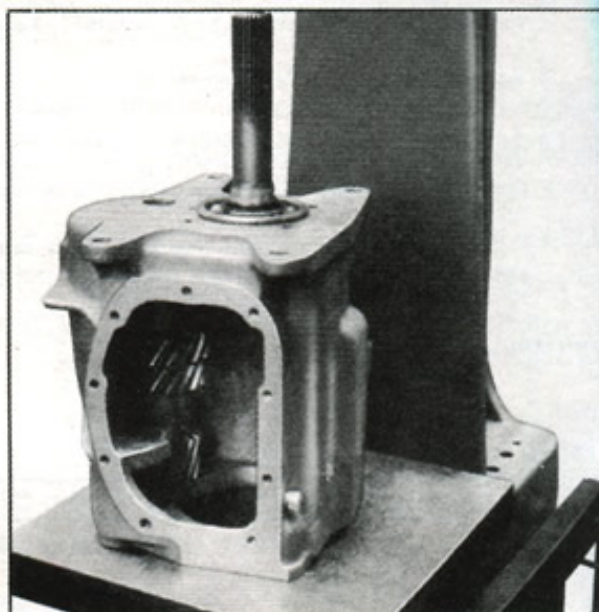

Fig. 6—Removing Drive Gear
13. Press drive gear from bearing and transmission case (Fig. 6).